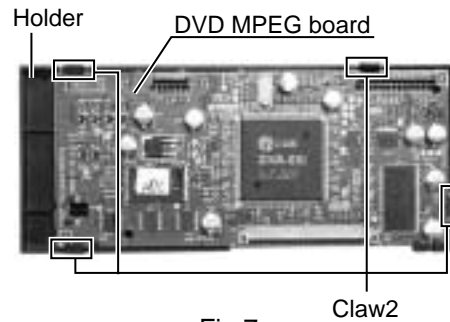

Fig.7
3. Remove the five screws I attaching the speaker terminals and jack to the rear panel (see fig.7).